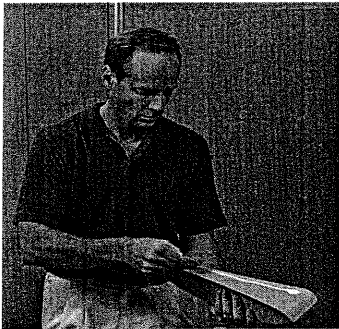

Figure 1
**Spread adhesive** uniformly across the back of the shelf, leaving a clean area in the center. See figure 1.